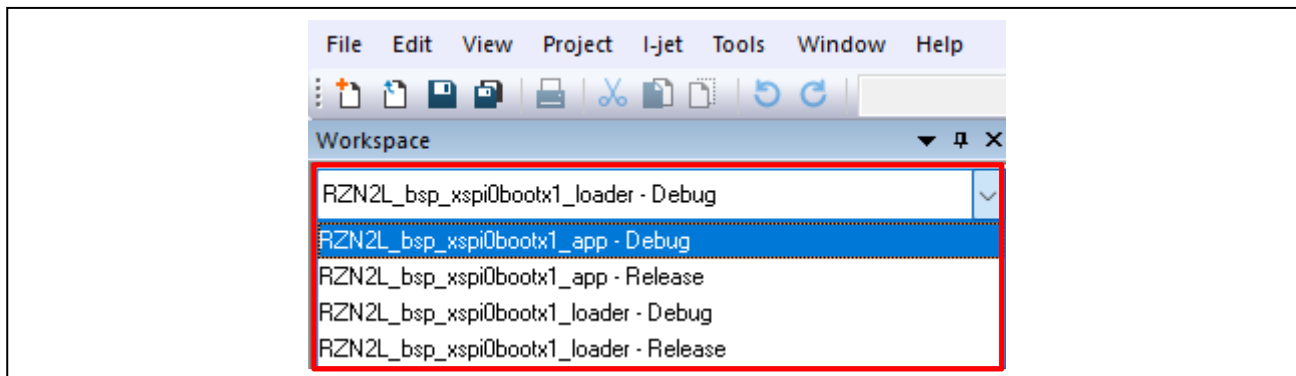

Figure 5.1 Project selection
2. Select "RZN2L_bsp_xspi0boot1_app" project in Workspace box as Figure 5.1.